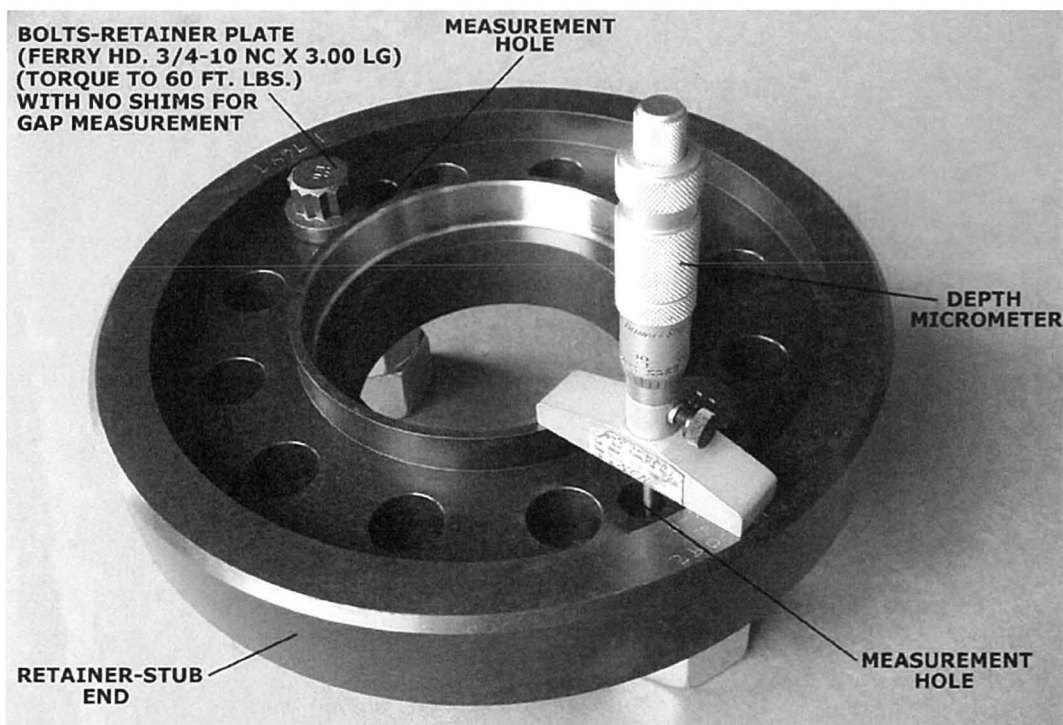
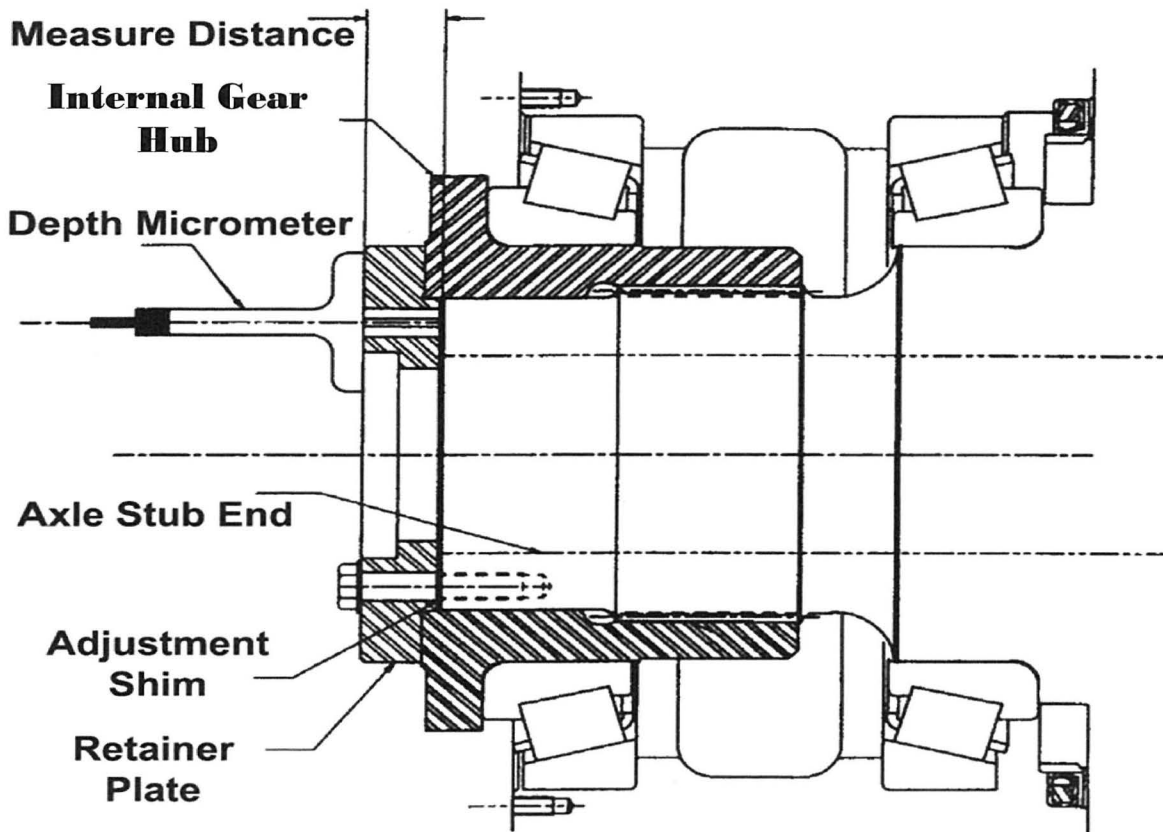

FIGURE 12
FIGURE 13
3. Install retainer plate without shims using two retainer plate bolts, Ferry Hd 3/4-10 NC X 3.00 LG with out washers, spaced 180 apart and in the holes next to the two measuring holes. See **FIGURE 12 (PAGE 26)**. Do not lube the bolt threads install the bolts clean and dry. Use brake cleaning solvent and compressed air to blow threaded holes dry. Tighten the bolts until retainer plate is snug against internal gear hub and looseness is taken out of the bearings but the bolts are not tight.
2. With wheel assembly positioned on stub end, install wheel bearing retainer plate without shims, using two retainer plate bolts, Ferry Hd 3/4-10 NC X 3.00 LG without washers, spaced 180° apart and next to the measuring holes. See **(Figure 12)**. Do not lube the bolt threads, install the bolts clean and dry. All threads in the stub end should be clean and dry. Use brake cleaning solvent and compressed air to blow threaded holes clean and dry. Tighten the bolts until retainer plate is snug against internal gear hub and looseness is taken out of the bearings but the bolts are not tight.
7. Using a depth micrometer, measure the total distance from the outer surface of the retainer plate to the stub end, through each of the two retainer plate measuring holes and average the two measurements and record. See (Figure 12 and Figure 13).